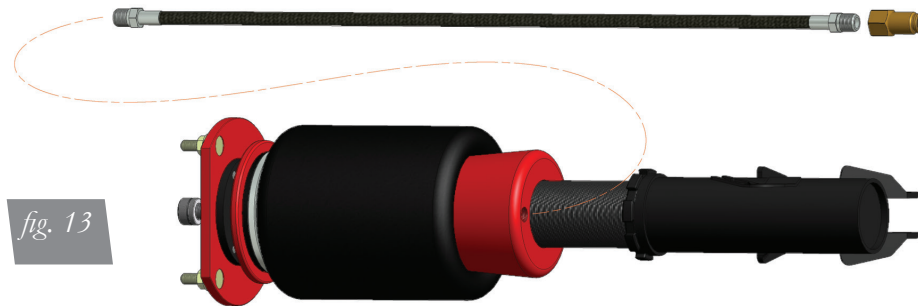

fig. 13
1. Begin by installing the leader line into the air spring (fig. 13). Wrap the threads of the leader hose with Teflon tape or thread sealant. Tighten the appropriate fitting to the airline 1 3/4 turns beyond hand tight. Tighten the leader line into the air spring 1 3/4 turns beyond hand tight.